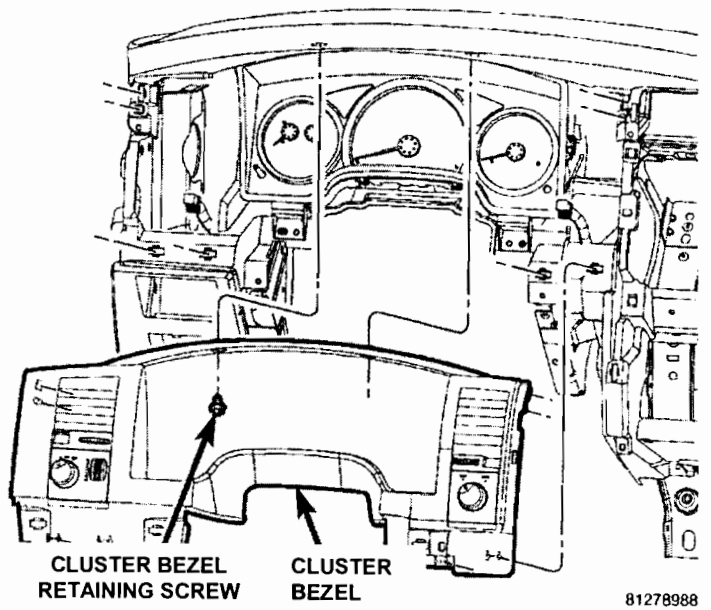

Figure 1
8. Remove the cluster bezel retaining screws and using a trim stick or equivalent, separate the cluster bezel from the instrument panel (Figure 1).